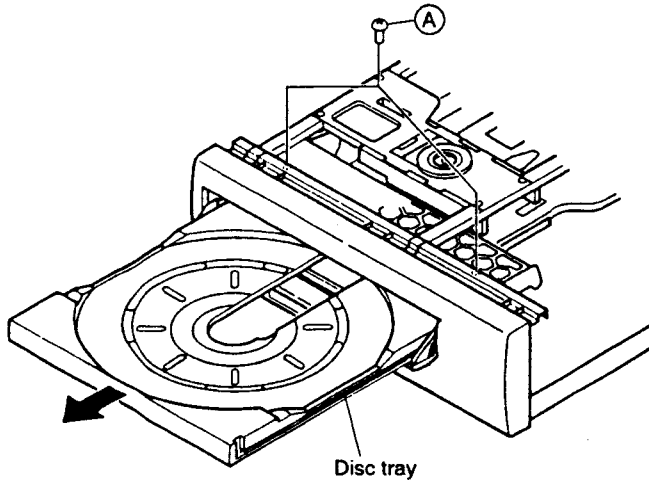
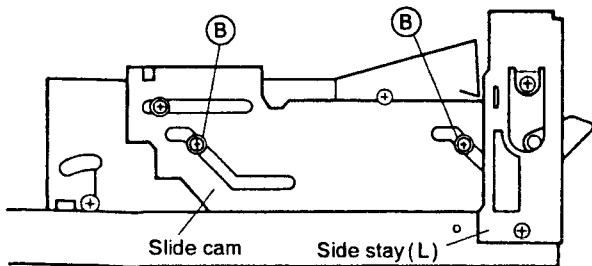

Fig. 1
Fig. 2
- ① Remove two screws (A) for tray stopper. (Fig. 1)
- ② Remove the front panel. (by loosening three screws at the top side and a fixing screw of the earth lead.)
- ③ Remove two fixing screws from the slide cam on the left side. (Fig.2)